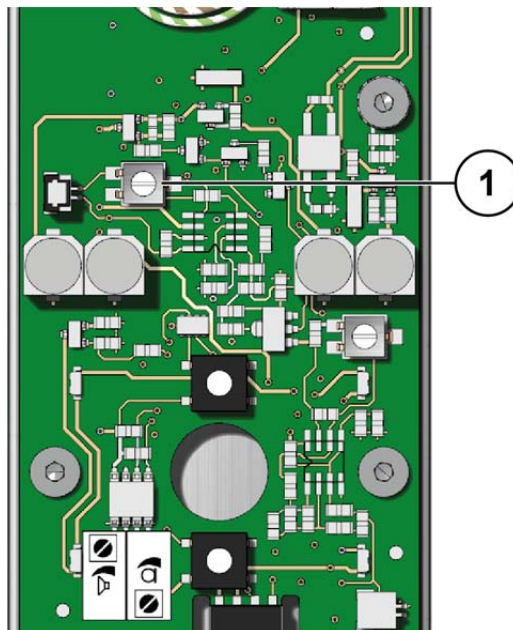

Fig. 11: Adjust the loudspeaker volume
- ▶ Turn the control **(1)** right to increase the volume of the loudspeaker (Fig. 11).